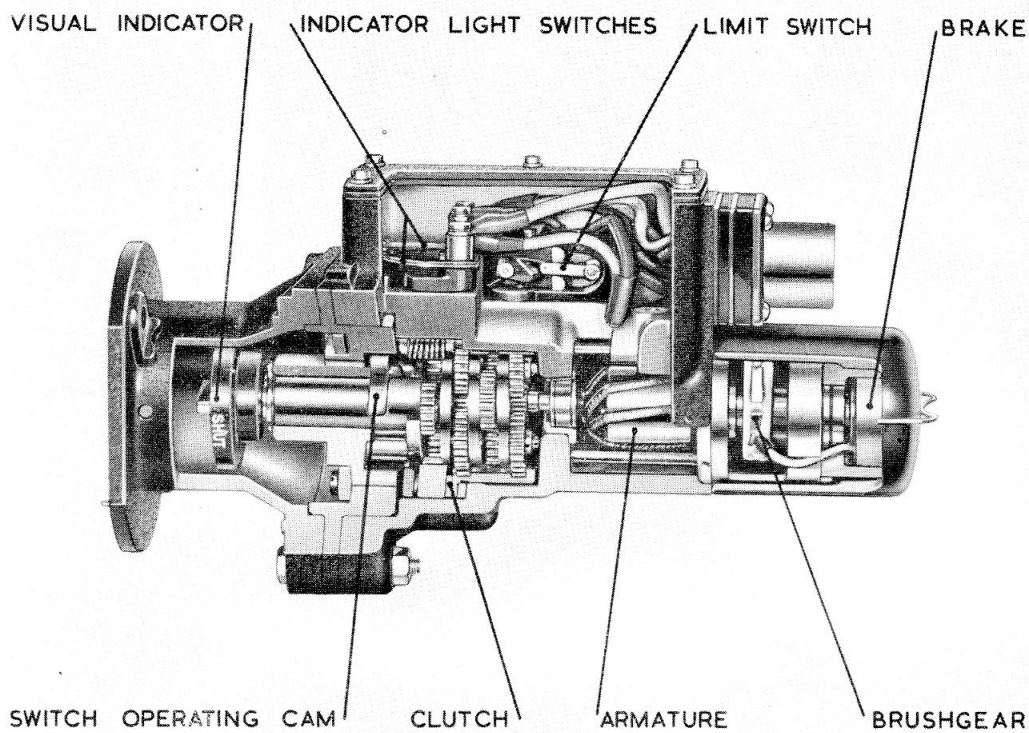

Fig. 1. General view of C5603
1. The C5603 actuator (*fig. 1*) is similar to that described and illustrated in the main chapter, but has the following characteristic features :—